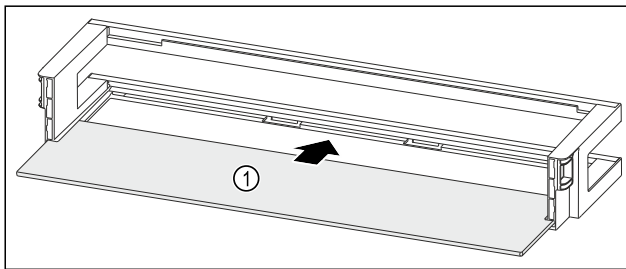

Fig. 224 Door rack with shelf
- ▶ Push the shelf Fig. 224 (1) into the side recesses.